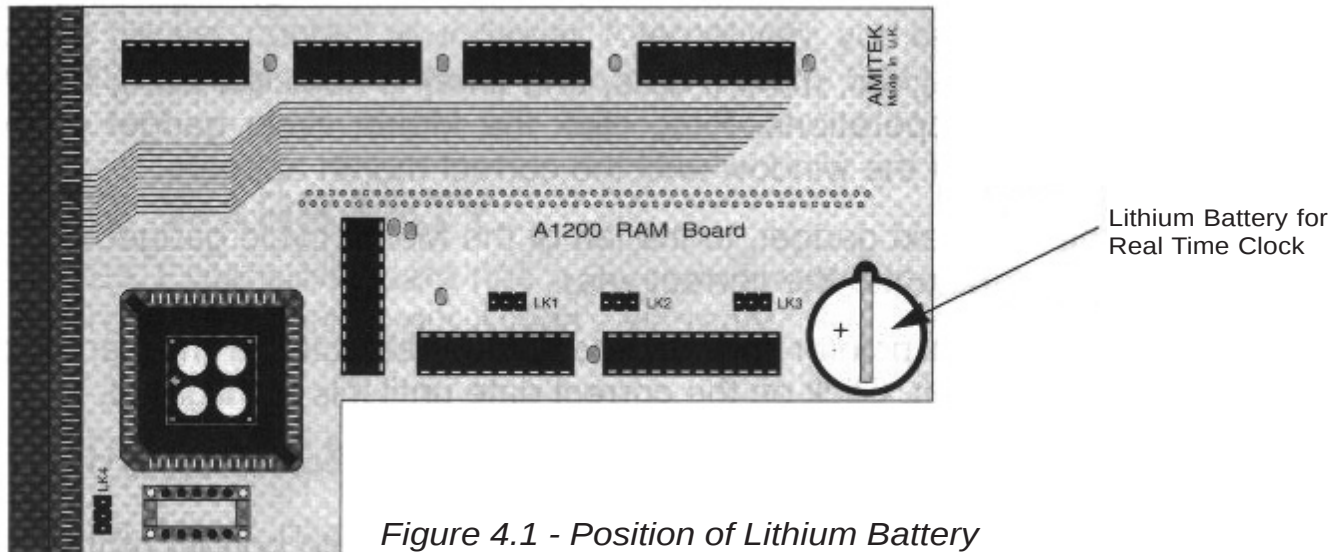

Figure 4.1 - Position of Lithium Battery
2. Use a screwdriver or blunt knife to carefully slide the coin-style battery forward, out of the socket in the lower right hand corner on the circuit mounted side of the board (see fig. 4.1).